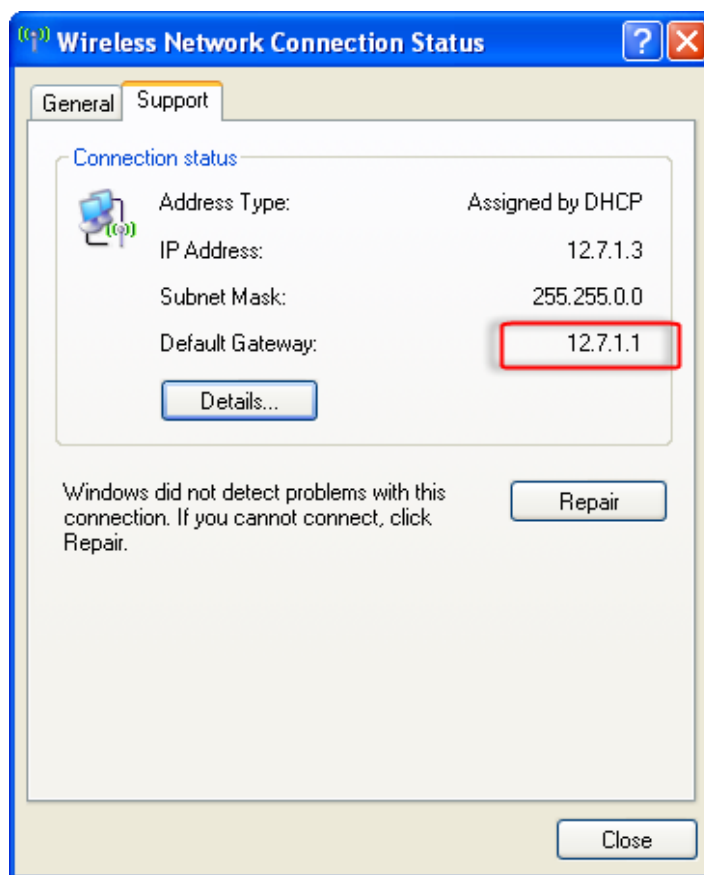

Figure 2-8 Checking the Wireless Network Status
5. Check the wireless network status and obtain the default gateway. See Figure 2-8 for details.